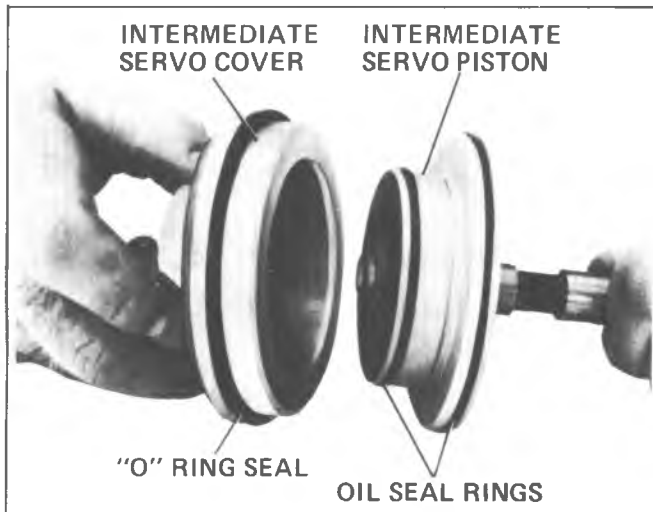

Fig. 7A-149A--Installing Intermediate Servo Piston into Cover
6. If removed, install new intermediate servo piston, inner and outer seal rings. Make sure cut ends are assembled in the same relationship as cut (Fig. 7A-120A). Make sure rings are seated in the grooves to prevent damage to the rings. Retain with petrolatum.
8. Install intermediate servo piston assembly into intermediate servo cover (Fig. 7A-149A).
9. Install intermediate servo assembly into case, tapping lightly with non-metal or plastic hammer if necessary (Fig. 7A-150A).